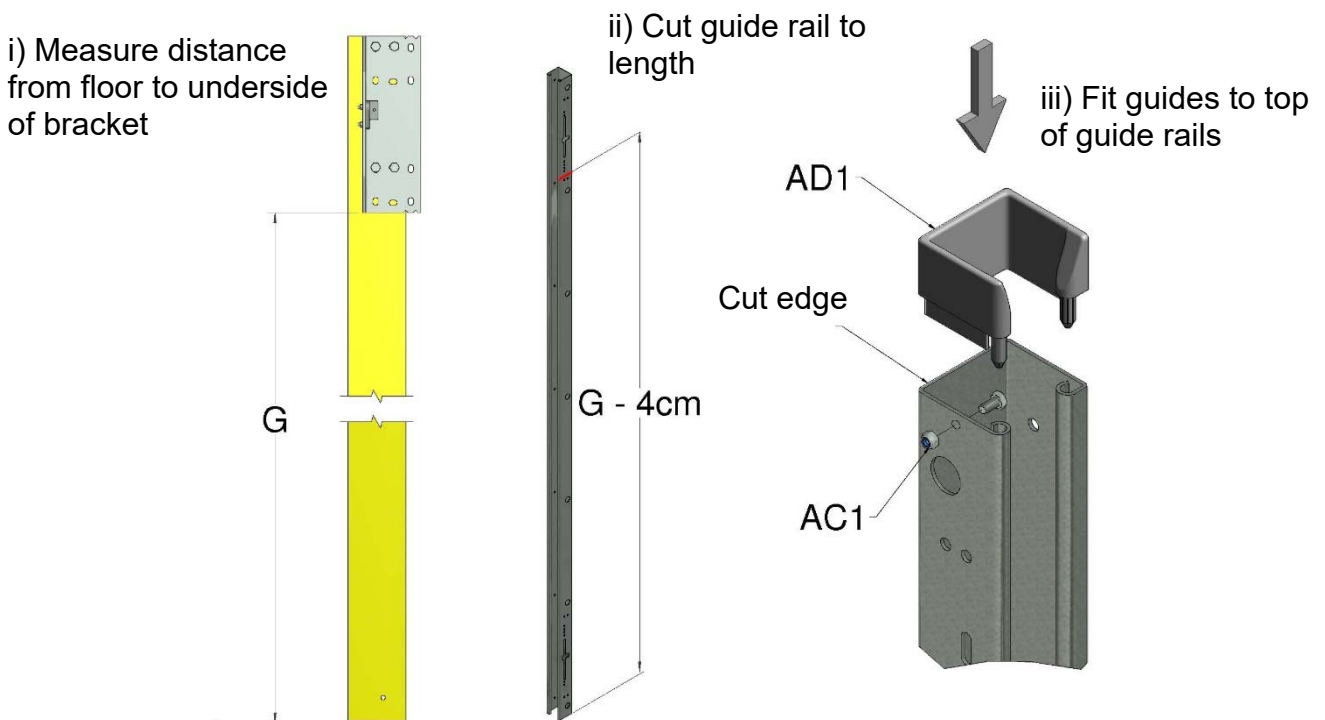

Figure 10, Cutting Lengths of Guide Rails
9. Equally cut the two guide rails (1) to fill the gap between the underside of the top brackets and the ground allowing 4 cm for the guide (AD1). Make sure that the un-cut end with the slot and holes is at the bottom ready to accept locking catches. Fit the pair of guides into the top of the guide rails (cut end) and secure with the M6x12 bolt and nut (AC1) in the front face, Figure 10.